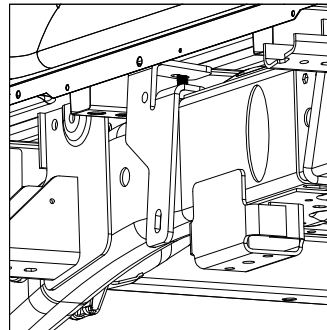

Figure C3: View looking at outside of driver side frame.
- 5. Install front brackets:** Locate the driver side front bracket, a U-bolt, and two flanged nuts. Position the bracket behind the crossmember under the installation location of the forward mounting rail. Maneuver the bracket so that the 1/2" carriage bolt passes through the slot at the top of the bracket as shown in figure C3. While holding the bracket flat against the outside of the frame pass the U-bolt over the frame and through the bracket and secure with two 1/2" flanged nuts, see figure C4. Repeat for passenger side. Hand tighten each nut.